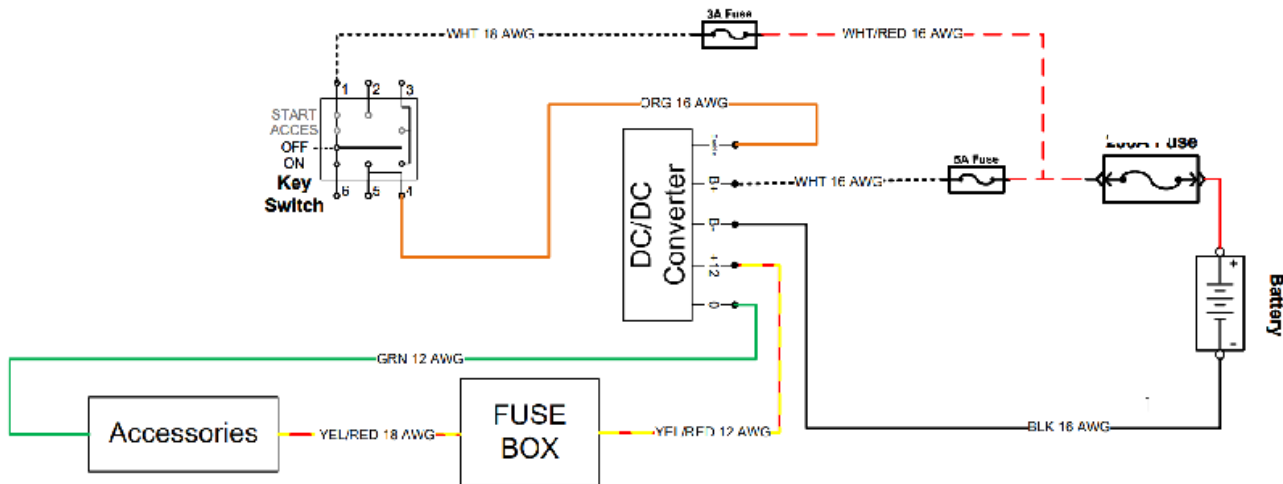

Figure 59. DC/DC Converter Input and Output Terminals Inspection.
2. 1. Check for the presence of voltage between the positive terminal (**B+**) (White Wire) and the negative terminal (**B-**) (Black Wire) of the DC/DC converter (As shown in Figure 59).
2. 2. Check for the presence of voltage between the orange wire and the negative terminal (**B-**) (Black Wire) of the DC/DC converter (As shown in Figure 59).
3. 1. Check for the presence of voltage between the yellow/red wire and the green wire of the DC/DC converter (As shown in Figure 59).